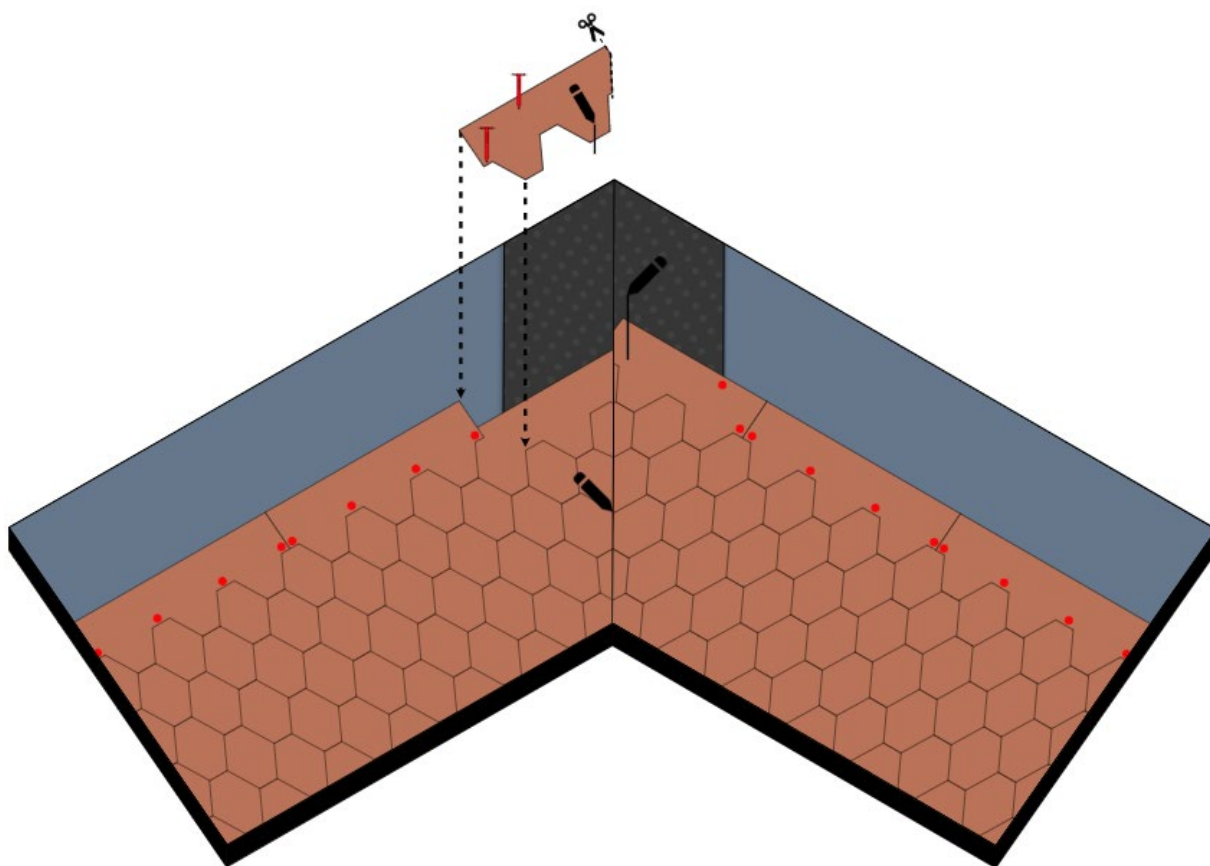

Fig. 13 – Shingles installation at valleys
- Once you have completed the first pitch for the entire length of the valley, move to the adjacent pitch. Start installing the shingles from the starting row and continue in successive rows. The last shingle in each row must reach at least the axis of the valley - Fig. 13.
- Nail the shingles up to 30 cm from the axis of the valley. Once the installation of the shingles is completed even for the second pitch, trace the axis of the valley. Then cut the shingles of the second pitch following the valley line. Cross-cut the top edge of the shingle at the valley - Fig. 13, so as to convey the descending water along the axis of the valley. Lift the shingles one at a time and fix them with the Bitustick- Fig. 13.